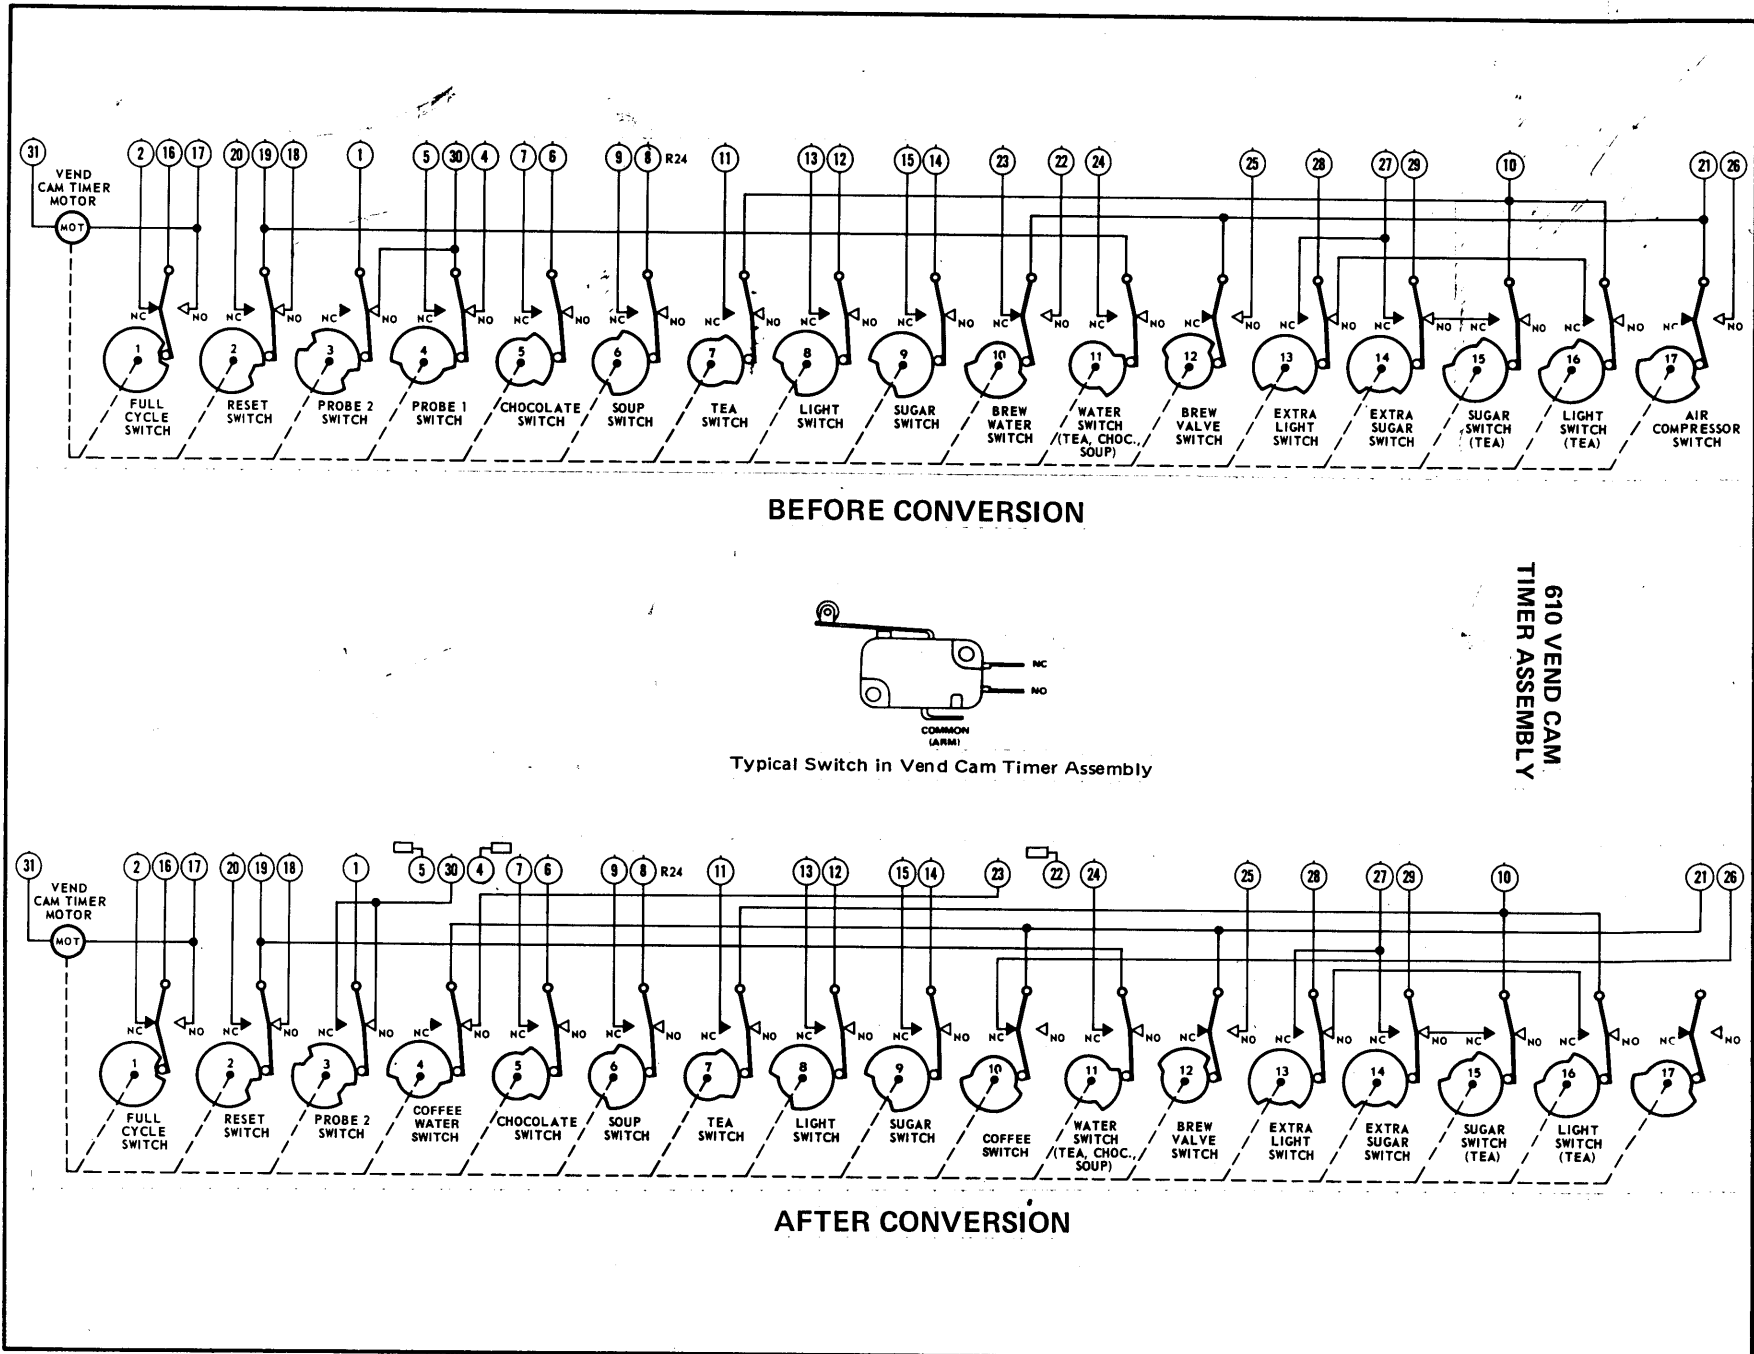

FIGURE 10
3. *Refer to Figure 10 while performing Step 23.*